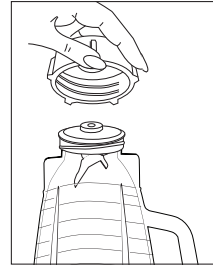

Figure 4
4. Place threaded jar bottom over blade and turn clockwise to tighten. (Figure 4)